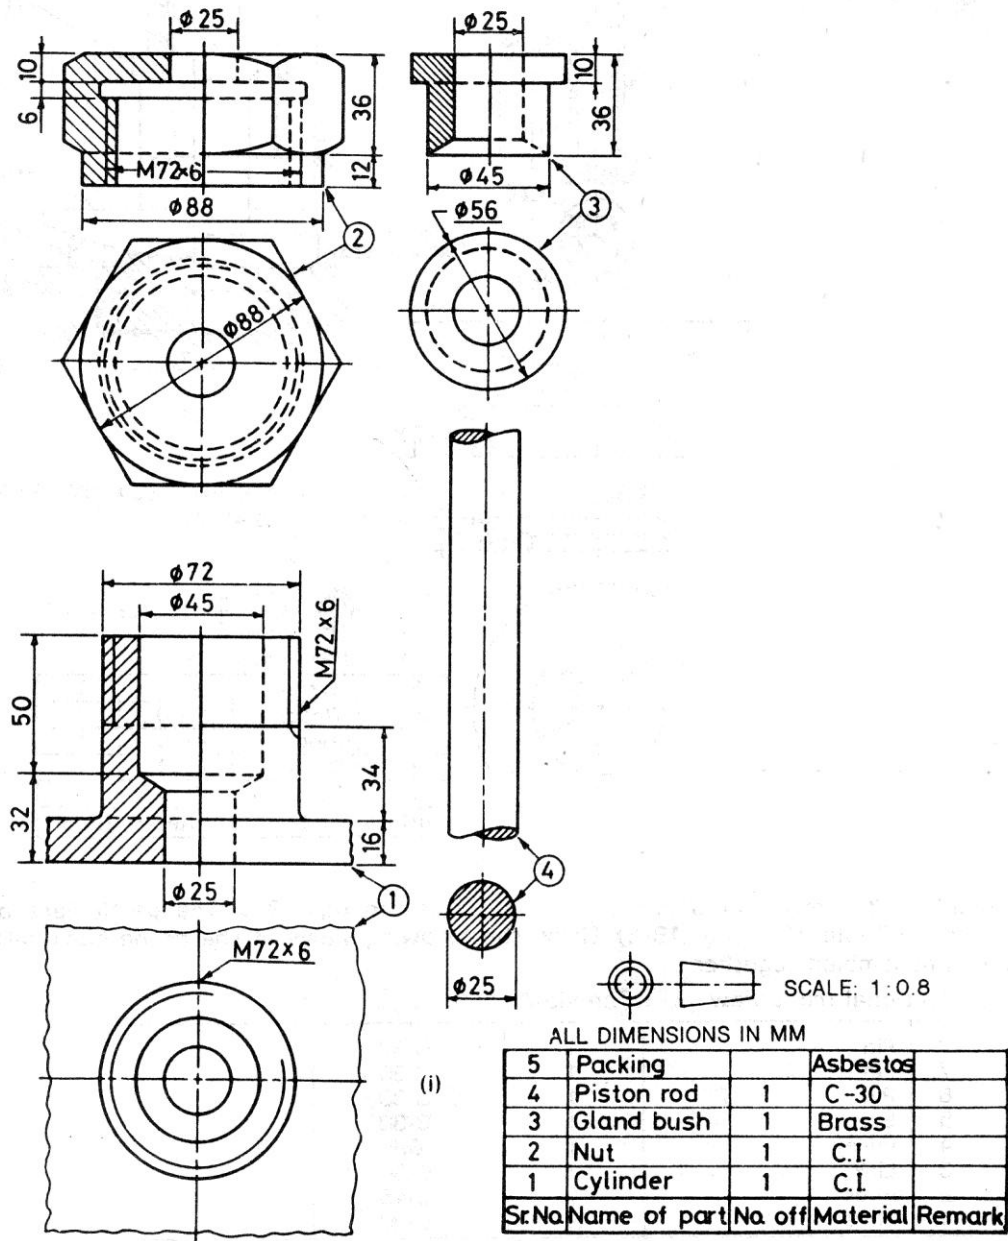

FIGURE T10.2: STUFFING BOX
5. 5. FIGURE T10.2 SHOWS THE DETAIL DRAWING OF A STUFFING BOX FOR A SMALL STEAM ENGINE. ASSEMBLE THE PARTS AND DRAW THE HALF SECTIONAL FRONT VIEW AND THE TOP VIEW.